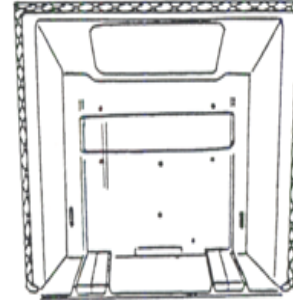

Fig. 11 Back (inside view)
13. Apply cement to the grooves in the back – **Fig. 11**. Put the stove back into position. It will be easiest to have a helper hold it in place temporarily. Install the stove top, which captures the top edge of the back, and secure it with washers and hex nuts on the two threaded stems at the rear corners. Secure the front of the stove top to the stove front with one Phillips-head bolt, ¼-20 x 1", passing downward through the notch where the griddle handle fits.